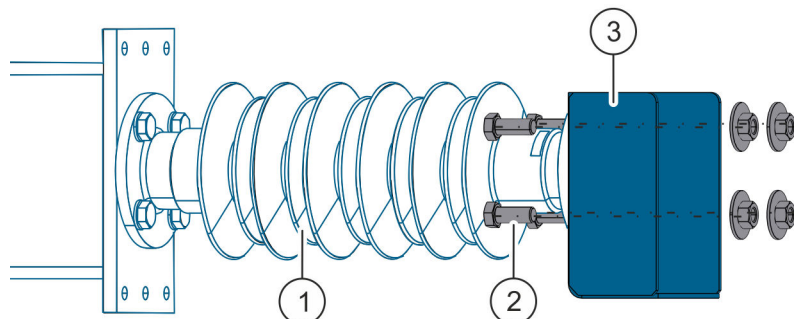

Fig. 16: Support
3. ➔ Assemble the support for the equipotential bonding terminal (Fig. 16/3) on the insulator (Fig. 16/1) with four screws and nuts (Fig. 16/2).